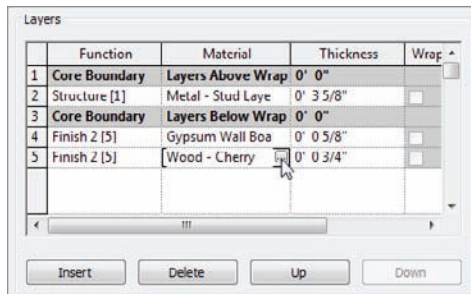

FIGURE 9.30 Click the [...] button to change the material.
8. Click in the bottom layer, and click the [...] button to change the material, as shown in Figure 9.30.